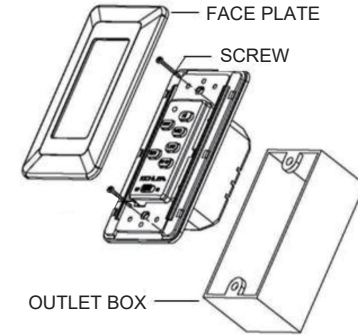

Fig. 19
- Step 1. Remove the existing wall plate and switch from the wall outlet box.(Fig.19)